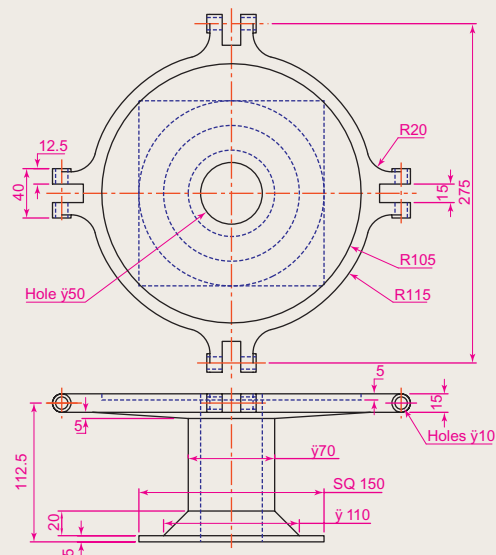
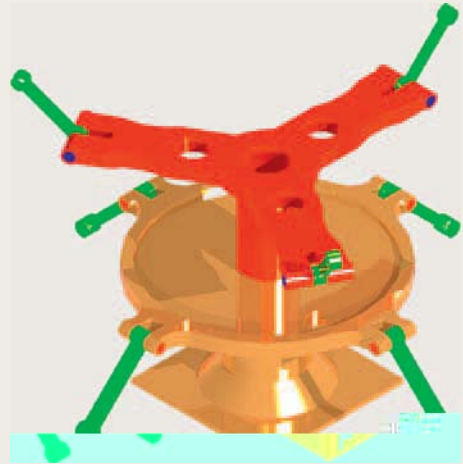
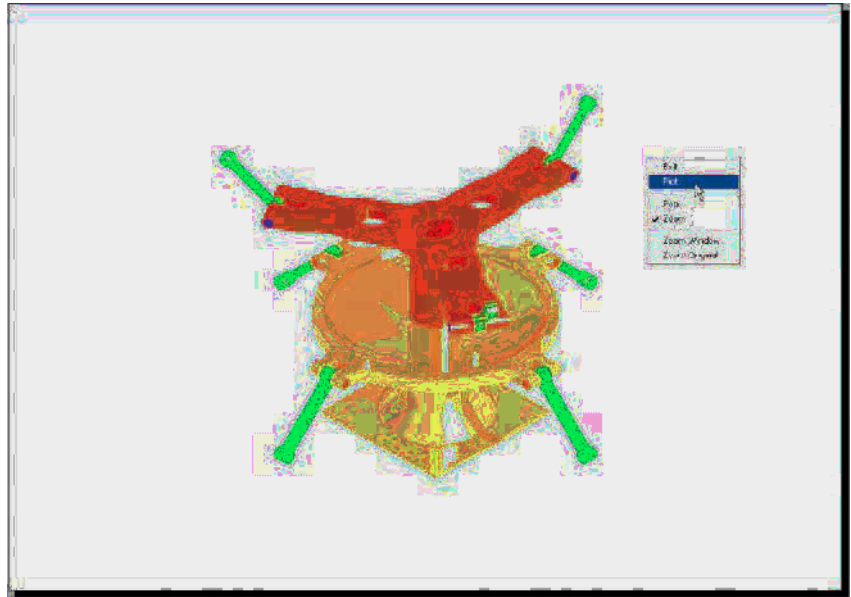

Fig. 18.28 Exercise 4 – first orthographic projection
Fig. 18.31 Exercise 4
Fig. 19.11 Fourth example – Printing/plotting
A rendered 3D model of the parts of an assembly are shown in Fig. 18.28. Working to the details given in the three orthographic projections Figures 18.28, 18.29 and 18.30, construct the two parts of the 3D model, place them in suitable positions relative to each other, add lighting and materials and render the model (Fig. 18.31).
Fig. 19.11 shows a **Plot Preview** of the 3D solid model in Fig. 18.31 from page 378.
9. Repeat in each of the viewports with different shapes of polygonal viewport outlines (Fig. 19.11).